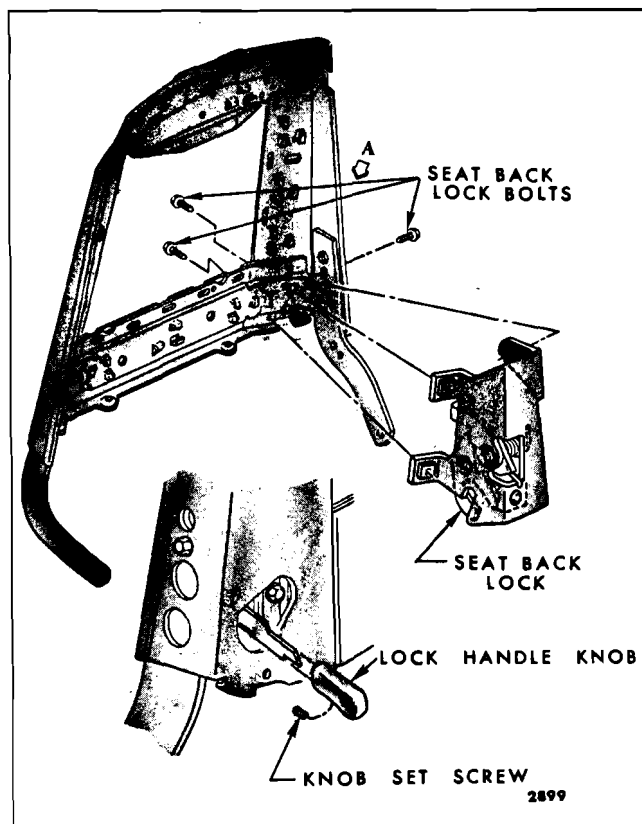

Fig. 15-48—Front Seat Back Lock - "F & Z" Standard Bucket Seats
2. Remove seat back lock handle knob (See Fig. 15-48).
3. Remove seat back panel and detach seat back trim outer side facing sufficiently to gain access to lock attaching bolts (Fig. 15-48).
4. Remove seat back lock attaching bolts (Fig. 15-48) and remove seat back lock from seat back.